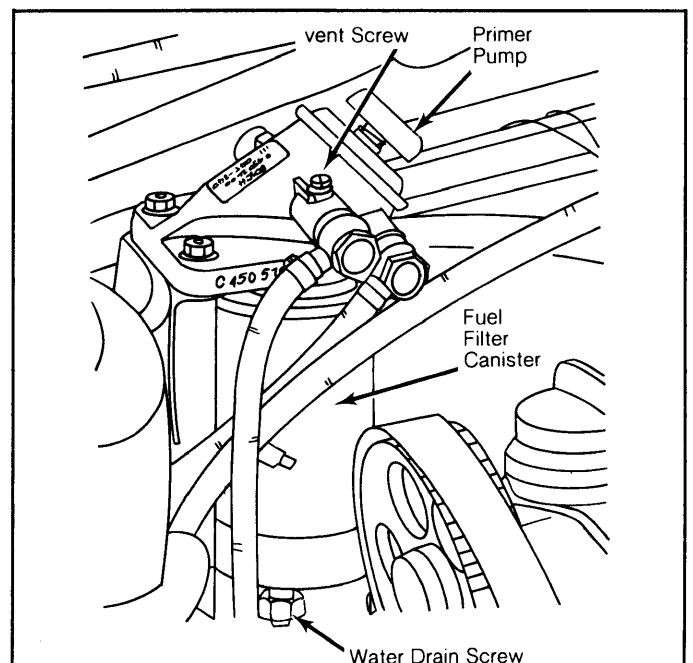

Fig. 5: Early Model Fuel Filter With Primer Pump
Early model fuel filters were equipped with hand primer pump and vent screw for bleeding fuel system. See Fig. 5. Later model filter has no primer pump. Regardless, which filter is used, bleeding is unnecessary. Vane-type fuel pump supplies fuel at starting speeds and is capable of automatically bleeding fuel supply system.
**Removal & Installation** – 1) To replace filter, remove old canister and install new one. On early models, bleeding can be accomplished, if desired, by loosening vent screw on top of filter. See Fig. 5. Operate primer pump until fuel appears free of air bubbles. Then tighten vent screw and start engine.